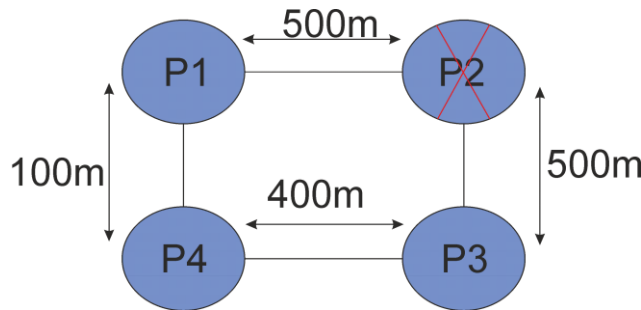

Figure 13
**Case 1 (Figure 13):** In this case we have 4 panels connected as shown above, using a closed ring topology. If panel **P2** stops operating (goes to cut off, unexpected crash or some other fault) then **P1**, **P3** and **P4** panels will continue to communicate with each other. The **P4** will become the connecting node between the **P1** and **P3**. **P1** and **P3** are physically connected because the **P2** does not operate, and it is bypassed by the panel network safety hardware. In this case the cumulative cable length between **P1** and **P3** is 1000m (500m+500m) and it exceeds the nominal cable length of 800m. **The panel network communication from this side of the ring cannot be reliable.** In any case, the communication between **P1** and **P3** will not be interrupted because there is **P4** that is connected to them and in turn connecting them together.